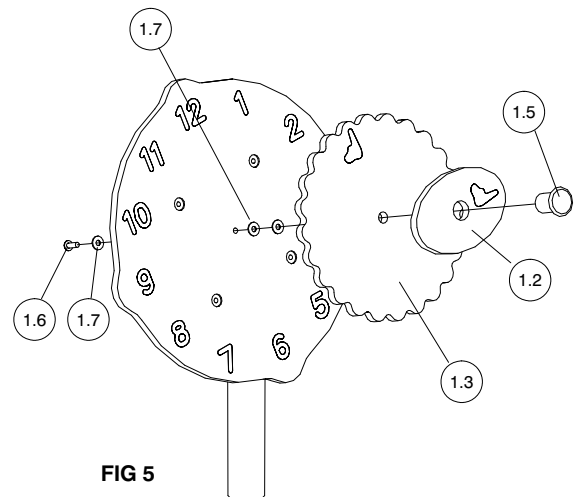

FIG 5
- iv) Attach the upper (1.2) and middle (1.3) table tops to the assy using 1-off M10 Torx bolt (1.6), 3-off M10 washers (1.7), two of these being used as spacers between (1.4) and (1.5) and 1-off spigot (1.5). (Figs 5 & 6). Apply a suitable threadlock adhesive.